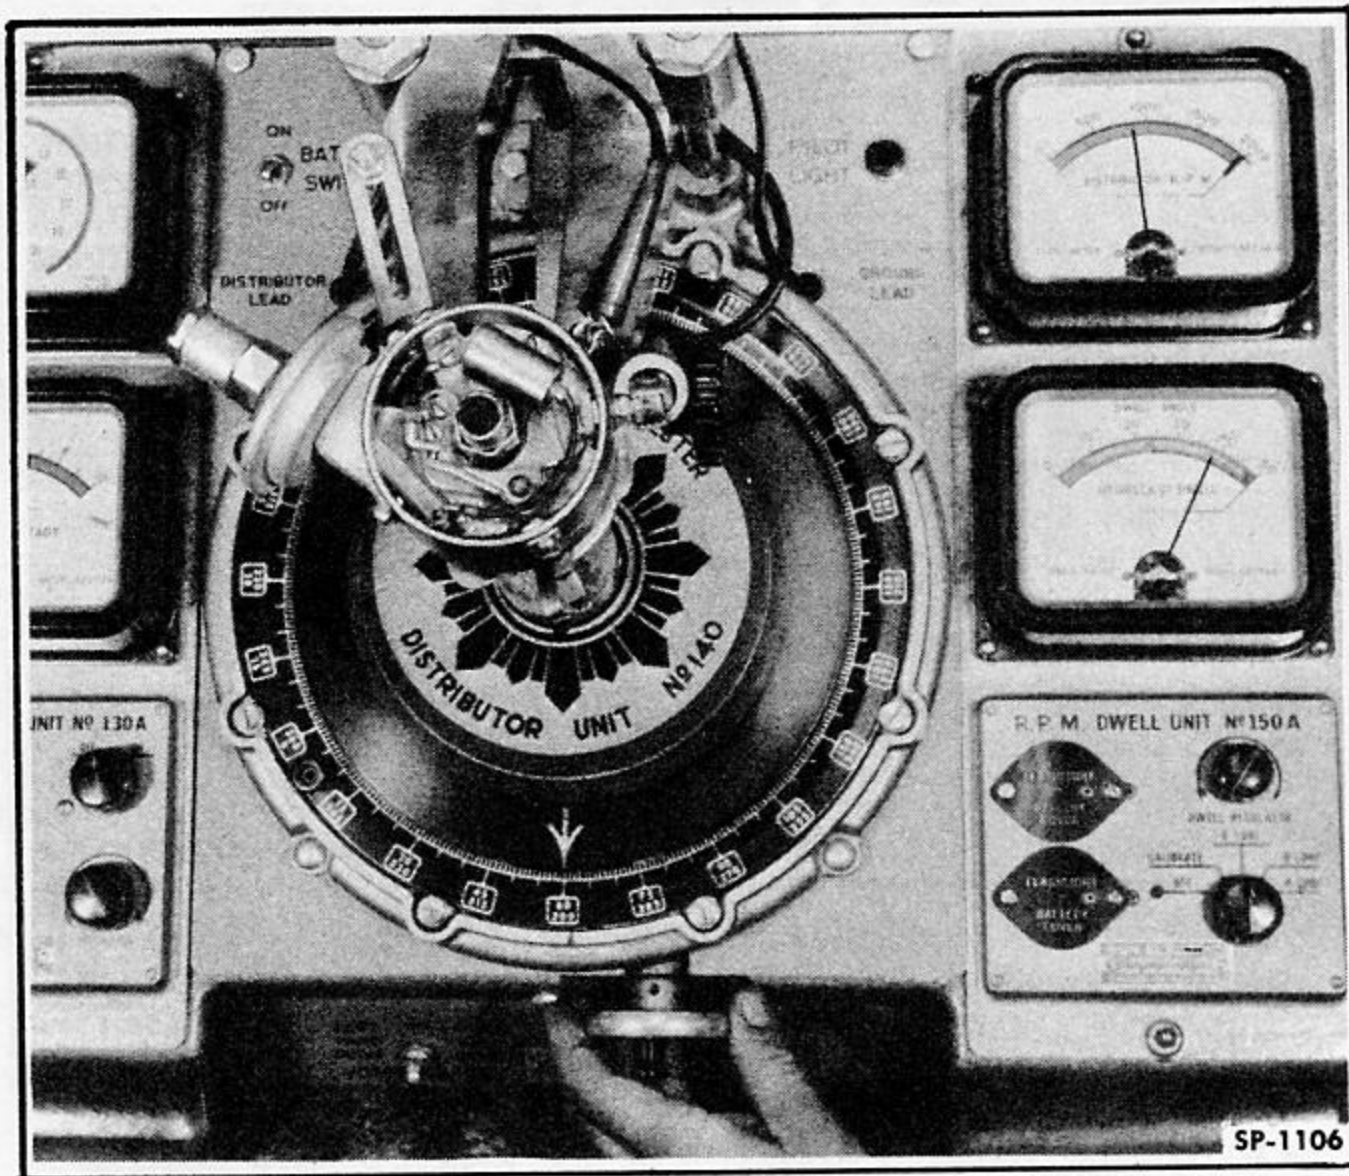

Fig. 14—Checking Centrifugal Spark Advance
2. Check centrifugal spark advance (Fig. 14). Follow Distributor Tester manufacturers instructions to check centrifugal advance at specified distributor speeds shown in the following table.